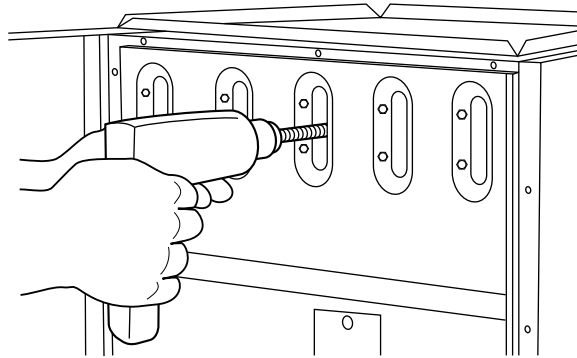

Fig. 8—Cleaning Heat Exchanger Cell
- (2.) Insert brush end of cable into upper opening of cell and slowly rotate with drill. DO NOT force cable. Gradually insert at least 36 in. of cable into 2 upper passes of cell. (See Fig. 8.)